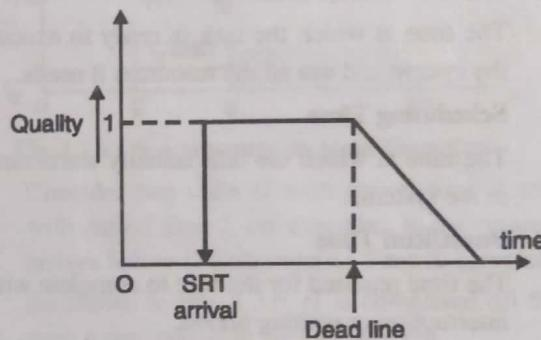

Fig. 1.2.2 : Soft Real Time tasks Execution
- As shown in the Fig. 1.2.2, the outcome of the SRT task is significant even if the deadline is missed and result is still acceptable after deadline till it becomes zero.